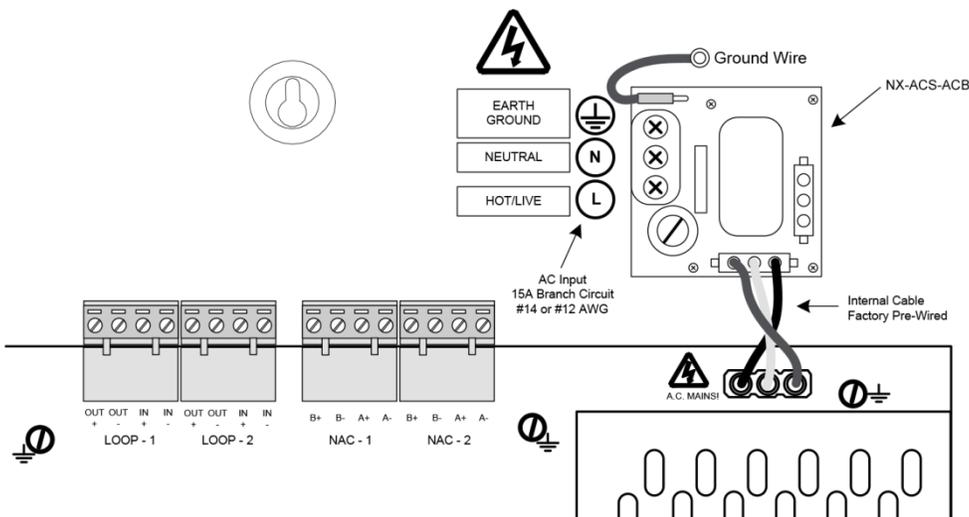

Figure 4 - NX-ACS-ACB AC Board
The NX-ACS-ACB AC board is the AC interface board for the NEO Intelligent Fire Alarm Control Panel. The NX-ACS-ACB is pre-mounted to standoffs on the rear of the back box above the NX-CTL base card (see figure 4).
If replacing the NX-ACS-ACB AC board, remove power (AC and battery) from the system. Remove all Molex connector plugs and the green ground wire plug from the NX-ACS-ACB board. Remove the four (4) screws holding the NX-ACS-ACB board to the back box (see figure 4).